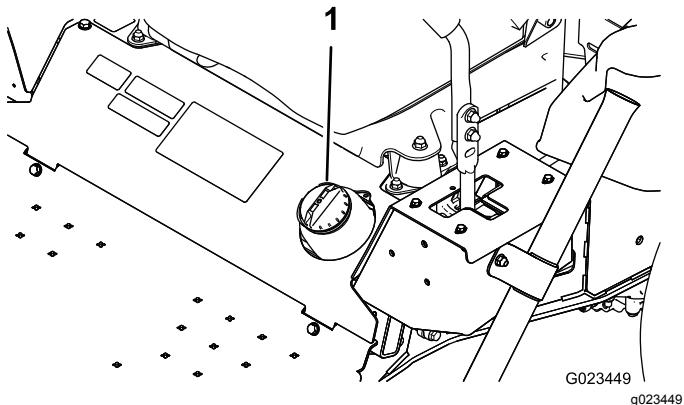

Figure 16
2. Clean the area around the fuel-tank cap (Figure 16).